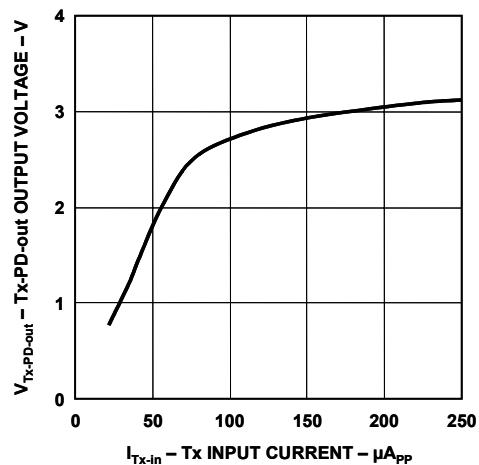
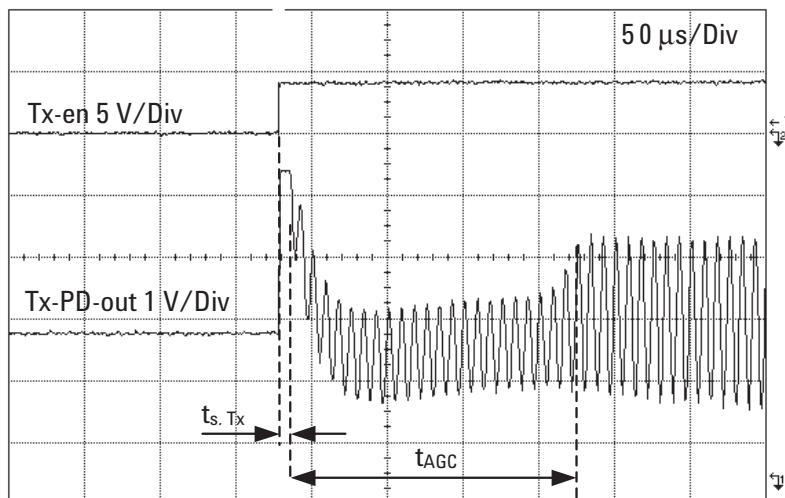

Figure 8. Tx-PD-out output voltage vs. Tx-in input current.
Figure 26. Tx-PD-out AGC response time.
1. Time from transmit is enabled (V_{Tx-en} is set to logic high) until output (Tx-PD-out) is available. See Figure 26 in the Application Information section.
2. Time from output (Tx-PD-out) is available until Tx-PD-out signal reaches 66% of its steady state level. See Figure 26 in the Application Information section.
variations in the optical channel over temperature and time. The Tx-PD-out output signal is effectively stabilized for input Tx-in signals of between 150 μ A_{PP} and 250 μ A_{PP} (see Figure 8). The AGC circuit starts to function 10 μ s after the Tx-en signal is set to logic high. After a period of 180 μ s the Tx-PD-out signal typically reaches 66% of its steady state level (see Figure 26). To ensure correct operation of the internal circuitry, an external 1 μ F capacitor needs to be connected from pin 11 to GND2.